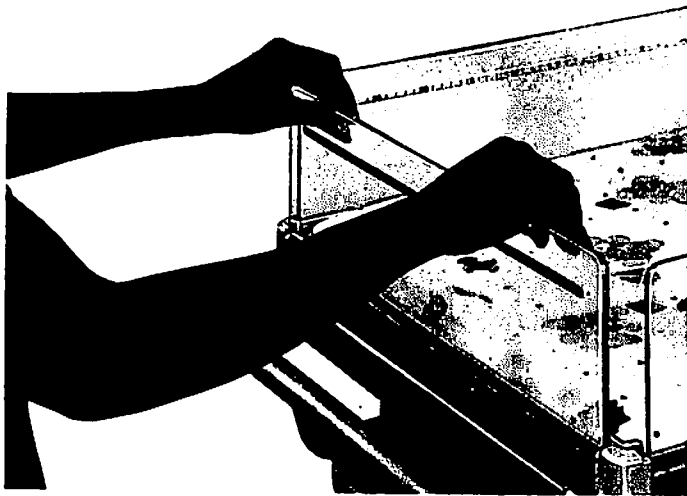

FIGURE 4.6 CHECKING THE BASSINET FRONT PANEL
3. **CHECK THE BASSINET FRONT PANEL** (Figures 4.6 and 4.7) by raising the panel and sliding it under the mattress. Return the panel by reversing the procedure. Check that the panel is positively engaged to confine the infant.